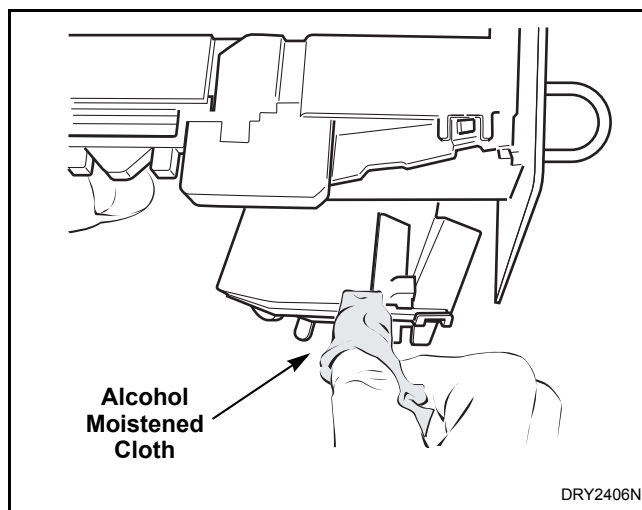

Figure 23
- e. Clean residue from coin rail with an alcohol moistened cloth. Refer to *Figure 23*.